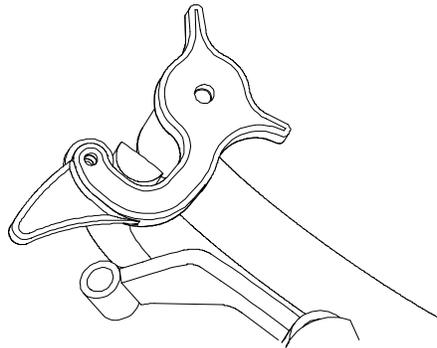

FIGURE 11
1. With rear of machine still on jack stands and engine running at full throttle, move the speed control lever to the midway position. Move the respective drive lever upward until it reaches the **neutral** position and engage neutral lock latches. See Figure 11. If the tire rotates in either direction, the length of the drive lever linkage will need to be adjusted.